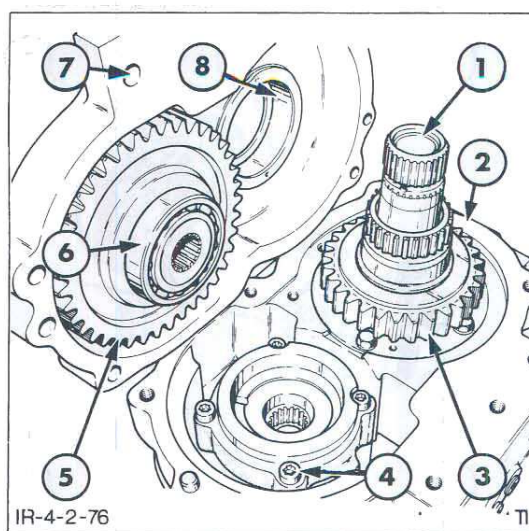

Figure 77
3. Slide the gear from the stator support. Remove the stator support retaining bolts then remove the support from the oil distributor housing, Figure 77.
5. Locate the gear onto the stator support, Figure 77.